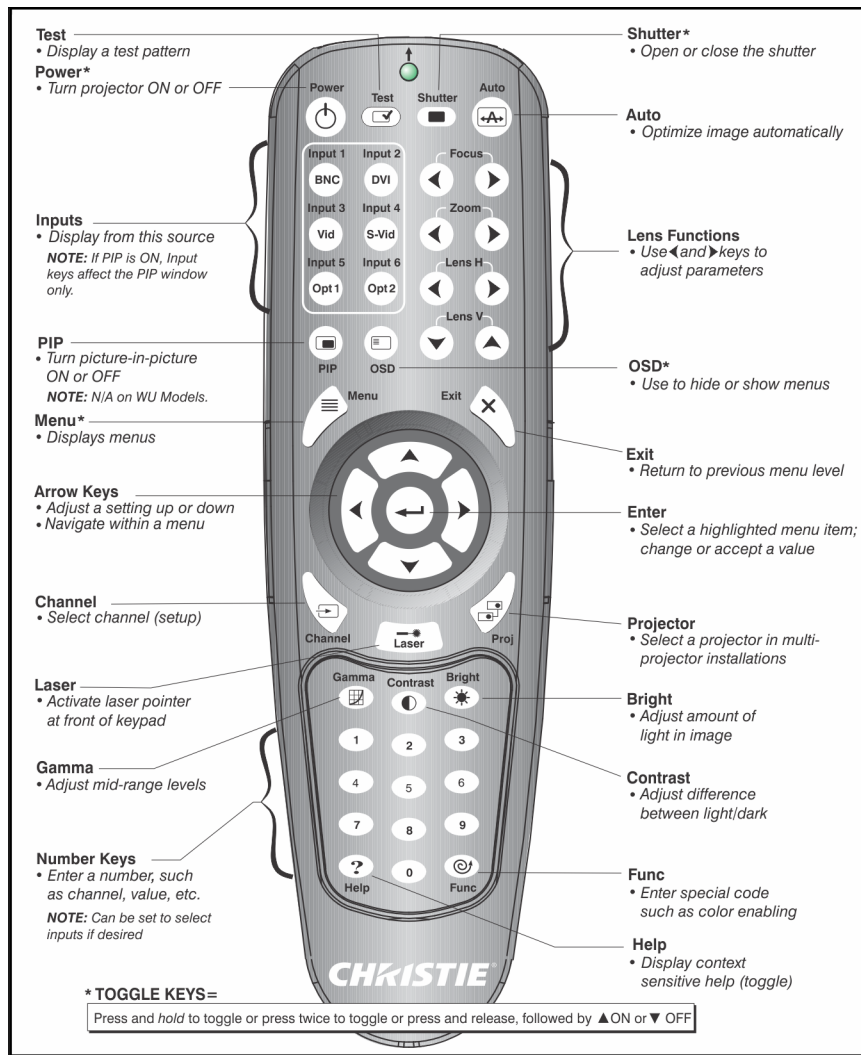

Figure 3-3 Standard IR Remote Keypad
- **The standard IR remote** (Figure 3-3) wired (includes a 100 ft. cable) or wireless control up to 100 feet
See the key descriptions provided for the standard IR remote (Figure 3-3).
Should you require a wired connection, use the cable (100 ft. cable supplied) to connect to the 3-pin XLR jack connector (Figure 3-3) located at the rear of the projector. You also need to set the proper internal jumper settings accordingly. The wired standard IR remote is recommended when: